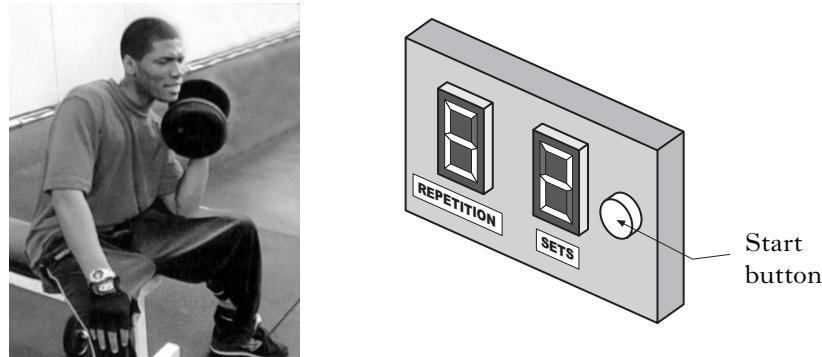

Figure Q4
4. A training device for weightlifters is shown in Figure Q4. The device guides the user to repeat exercises at timed intervals, and is based on 5 sets of exercises each consisting of 8 repetitions. The display indicates the number of repetitions that have been completed within a set, and the number of sets still to be done. At the end of each set, the SETS display decreases by one, and the REPETITION display resets to zero.